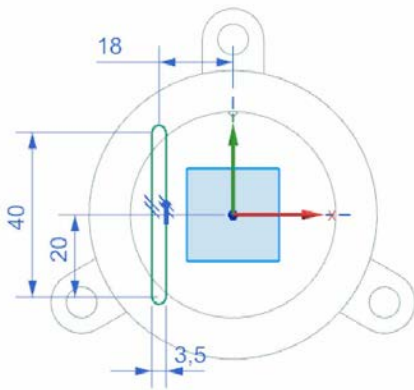

Figure 7-128 Sketch of the slot
- Create the slot on the top planar face and pattern it, refer to Figures 7-128 through 7-131.
2. Draw the sketch of the slot and add required dimensions and constraints to it, as shown in Figure 7-128.